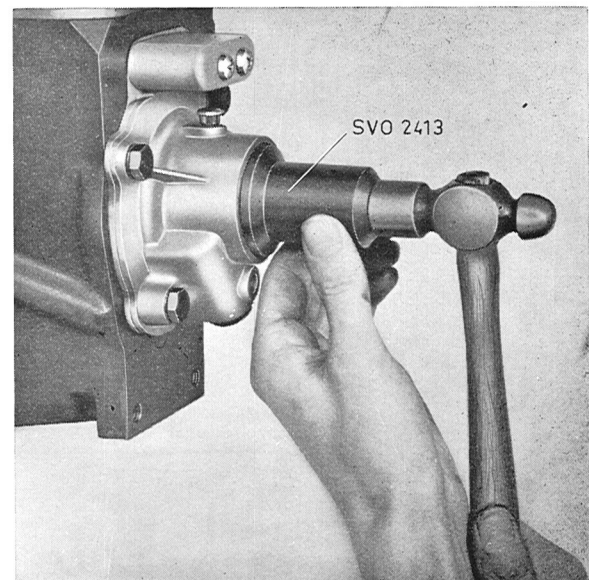

Fig. 4-24. Oil seal installation
3. Pull out the old oil seal with puller 4030. Install the new seal with sleeve 2413 see Fig. 4-24.